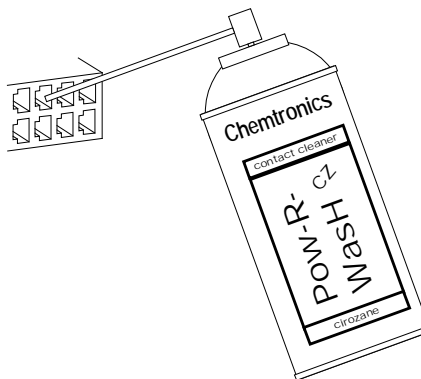

Figure 1
3. **Clean** each terminal using Chemtronics® contact cleaner “Pow-R-WasH CZ “ as shown in Figure 1.